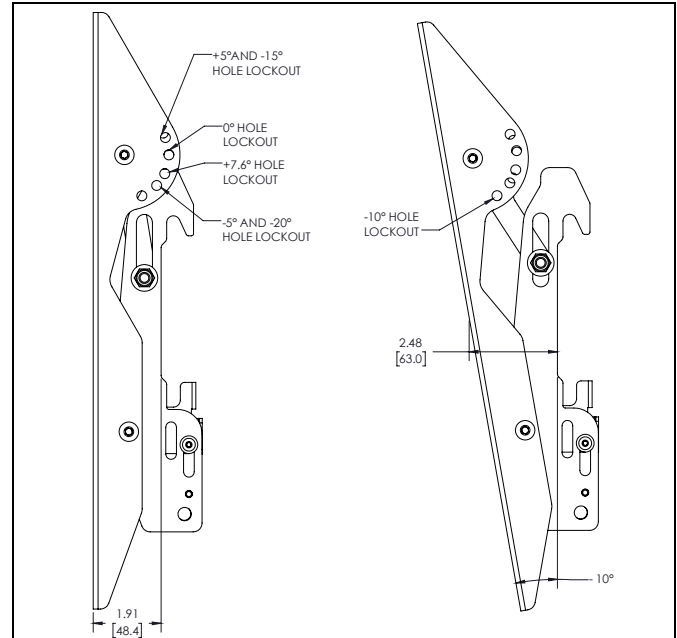
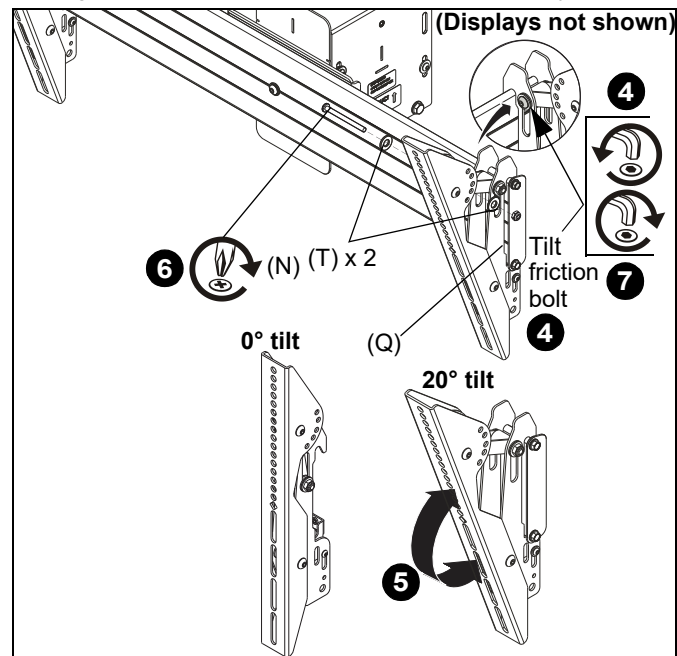

Figure 15
Figure 16
The interface brackets allow -7.6° to 20° tilt, and can be locked at -7.6°, -5°, 0°, 5°, 10°, 15° and 20° tilt. (See Figure 15)
4. If necessary, loosen button head tilt friction bolt (located on side of interface bracket). (See Figure 16)
5. Adjust tilt as required. (See Figure 16)
6. The tilt may be locked at -7.6°, -5°, 0°, 5°, 10°, 15° and 20° using one 1/4-20 x 2" Phillips head screw (N), one 1/4-20 lock nut (Q) and two 1/4" washers (T) per interface bracket. (See Figure 15) and (See Figure 16)